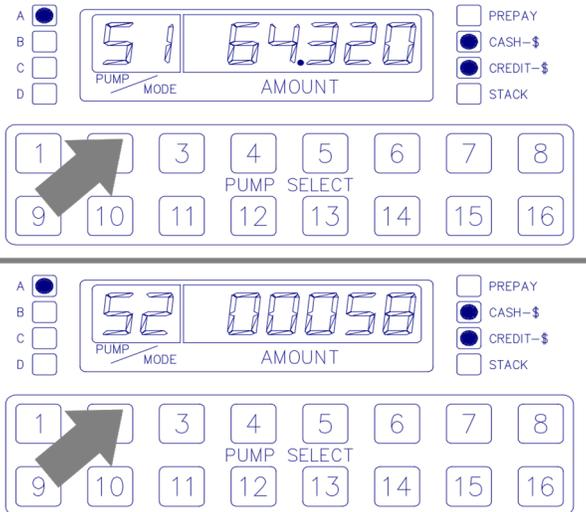

Figure 10
Figure 10 shows the total that would be displayed in MODES 51 and 52 for the first hose (A) at fueling position 2, if the money totalizer read \$5,864.32.